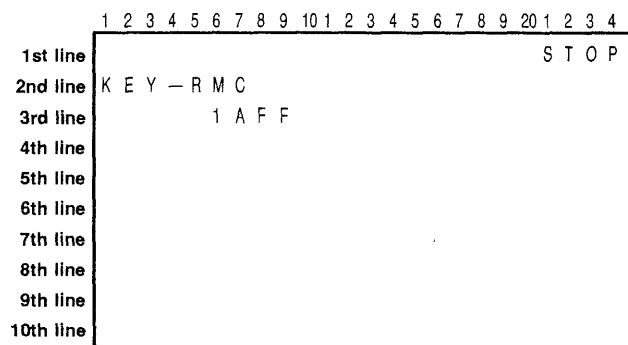

Fig. 7-7. Key and remote control data
The one byte (2 digits in hexadecimal notation) on the left of the 3rd line in figure 7-7 is the SIRCS code of the key input data of the main unit, and that on the right is the SIRCS code of the input data by the remote control unit.
An example in figure 7-7 shows that the playback key (1A in hexadecimal notation) on the main unit is pressed but there is no input (FF in hexadecimal notation) from the remote control unit.